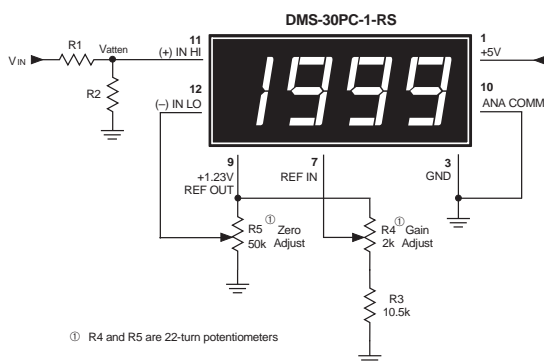

Figure 2. Schematic Diagram
Step 4. Find the null voltage that must be applied to pin 12 (-) INPUT LO, see Figure 2):
When  $V_{IN}$  is 1V,  $V_{atten(min)}$  will be 0.08V. It must be nulled by also placing 0.080V on pin 12 (-) INPUT LO) in order to achieve a display reading of "000". The circuit shown in Figure 2 uses a precision 22-turn potentiometer (R5) to generate 0.08V of zero offset.